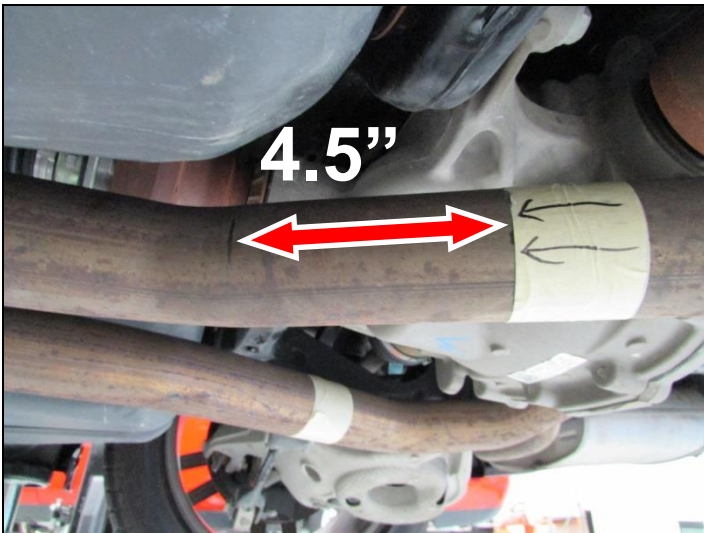

Figure 2
4. With a permanent marker, locate the tangent line (This is where the bend ends and the straight section of the pipe begins) of the left side OE mid pipe and mark a straight line. Now mark another straight line exactly 4.5" after your tangent mark (This is 4.5" in the direction of the rear of the vehicle). We suggest using masking tape to wrap around the OE mid pipe to ensure a straight cut. Draw arrows to ensure you cut at the correct side of the masking tape. **DOUBLE CHECK AND MEASURE TWICE BEFORE CUTTING.** See Figure 2.